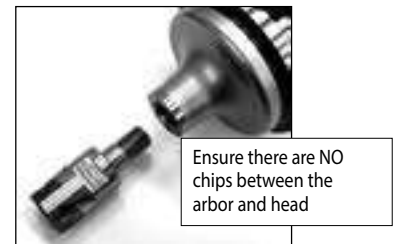

Fig. 1
1. When clamping the head on the arbor, make sure there is no dust or chips inside (Fig. 1).